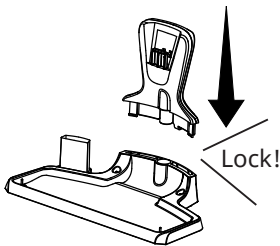

Fig.4
- Insert vacuum cleaner support into charger base and lock into place (Fig.4).